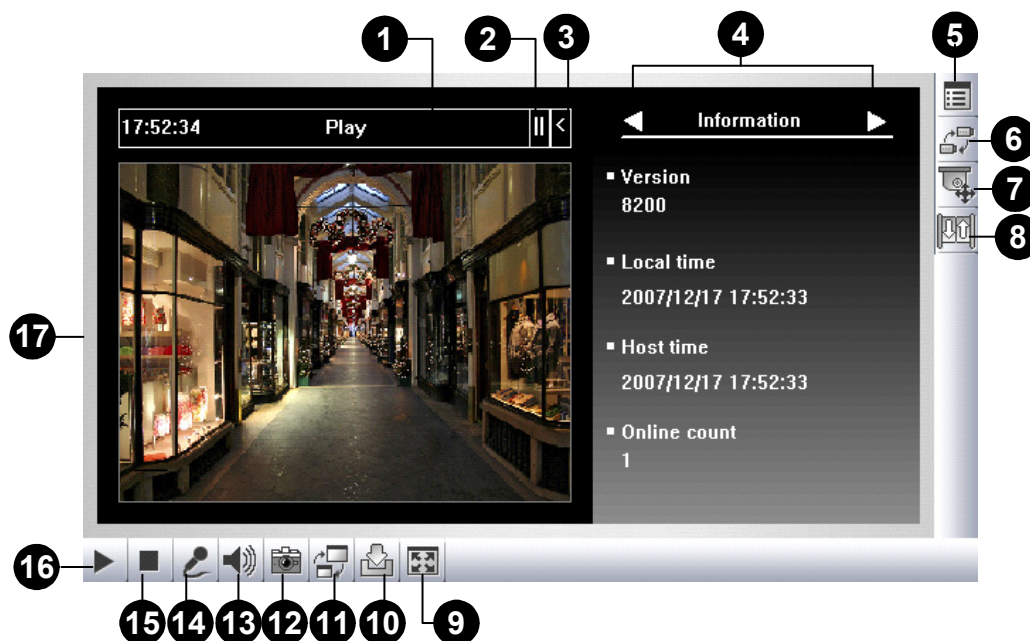

Figure 8-20 Single View MPEG4 Encoder Viewer
You can add the connection information of multiple GV-Systems to the WebCam server for quick access later. Click the **Show System Menu** button (No. 5, Figure 8-20), and select **Change Server** to display the following dialog box.
Click the **File Save** button (No. 10, Figure 8-20) to save video in a local computer. Files saved in AVI format are playable at third party viewers. Use the slider to adjust the time length of each saved clip.
1. Click the **Show System Menu** button (No. 5, Figure 8-20), and select **Alarm Notify**. This dialog box appears.
2. On the Single View, click the **Change Quality** button (No. 11, Figure 8-20). You will have the option of megapixel resolution now.
Click the **Camera Select** button to select one PTZ camera, and then click the **PTZ Control** button (No. 7, Figure 8-20) to bring up the PTZ control panel.
The new interface provides real-time graphic displays of camera and I/O status, and alarm event. Additionally, you can force output, as well as enable and disable I/O devices to the remote GV-System. Click the **I/O Control** button (No. 8, Figure 8-20) to bring out the I/O control panel.